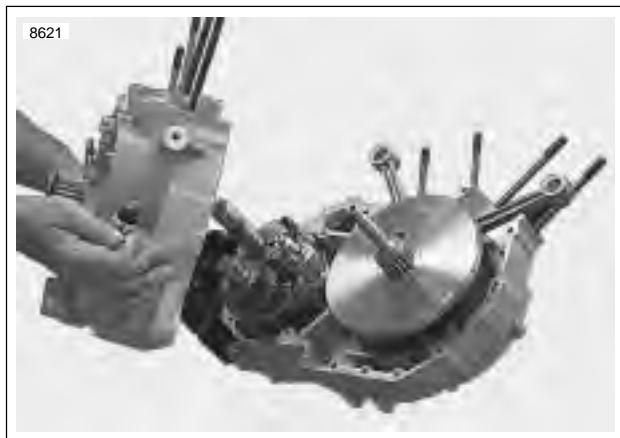

Figure 6-48. Separating Crankcase Halves
17. See Figure 6-48. Separate crankcase halves.